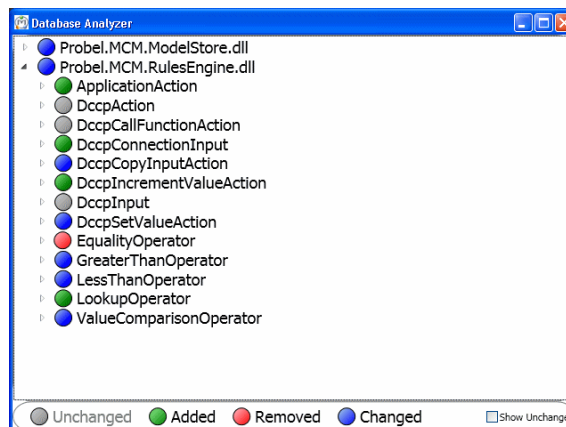

Figure 49 Database Analyzer
- To view the differences between the databases, click the  button. The Database Analyzer displays, indicating the parts of the database that will change when the database is updated, see Figure 49